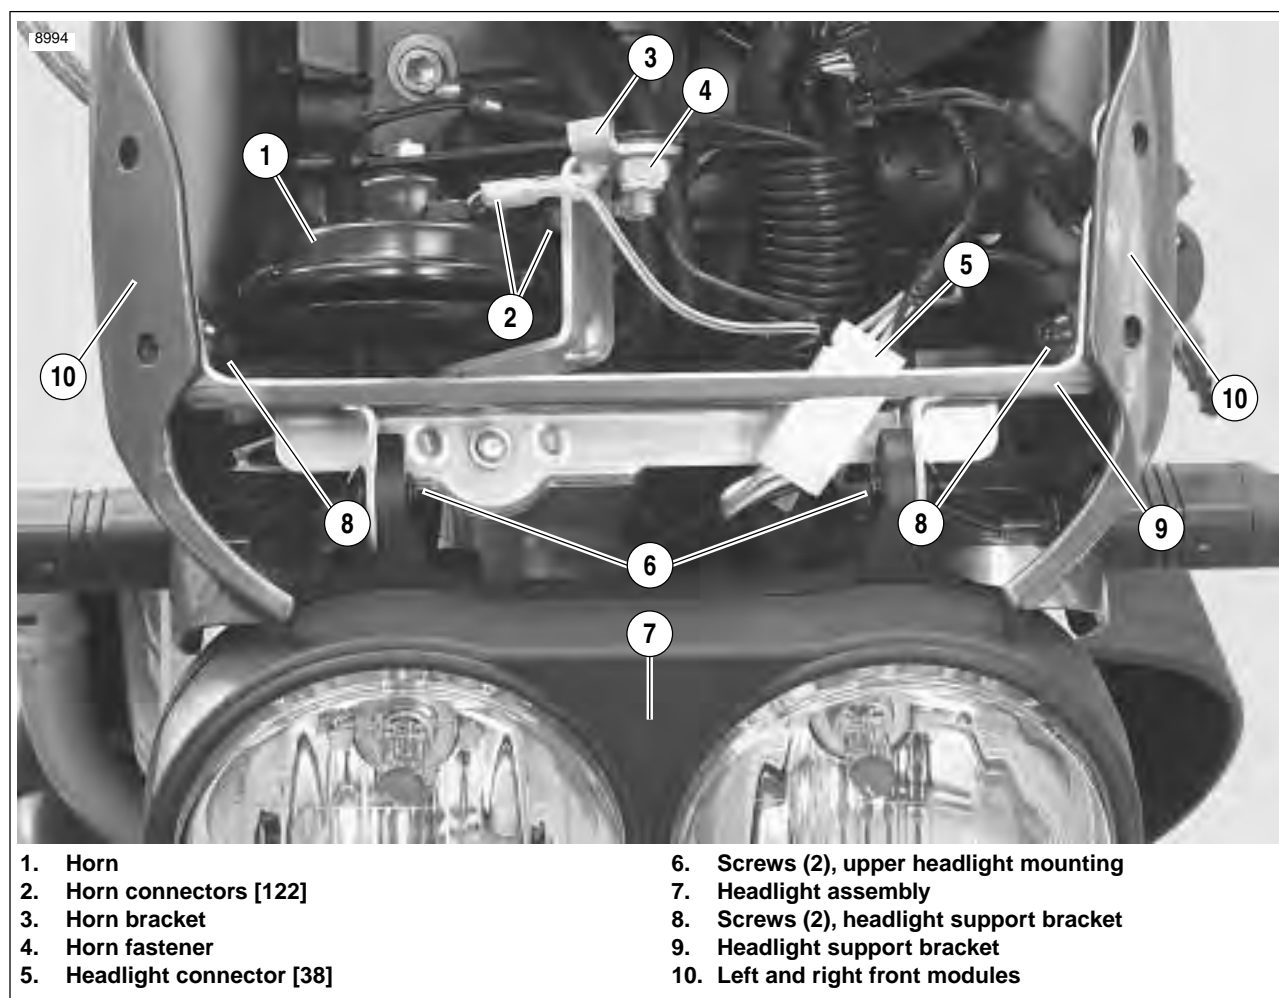

Figure 2-94. Headlight Assembly and Support Bracket
1. See Figure 2-94. Install headlight support bracket (9).
2. Install fasteners (8) securing headlight support bracket to left and right front modules (10) and tighten to 48-72 in-lbs (5.4-8.1 Nm).
- a. Install headlight assembly (7) into headlight support bracket (9).
- b. Install both upper headlight fasteners (6) but do not tighten.
5. Connect headlight connector [38] (5).
6. Install horn (1) and tighten fastener (4) to 72-96 in lbs (8.1-10.8 Nm).
7. Connect horn connectors [122] (2).